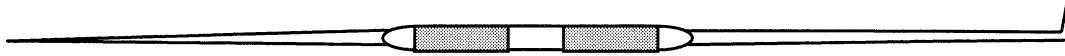

Figure 1 - Scribe
- A thin bladed, flathead screwdriver or a scribe (see figure 1):
8. Remove the U200 O.S. EPROM from the MR-61 or MR-76 mainboard. We recommend using the angled end of a scribe (see figure 1), or a thin-bladed, flathead screwdriver to slowly lift each end of the EPROM until it is free from the socket. Gently wedge the scribe or screwdriver between the black socket and the chip (not the green board and the socket), and work it slowly up and down between the chip and the socket, raising the chip a little at one end and then the other, until the chip is free.